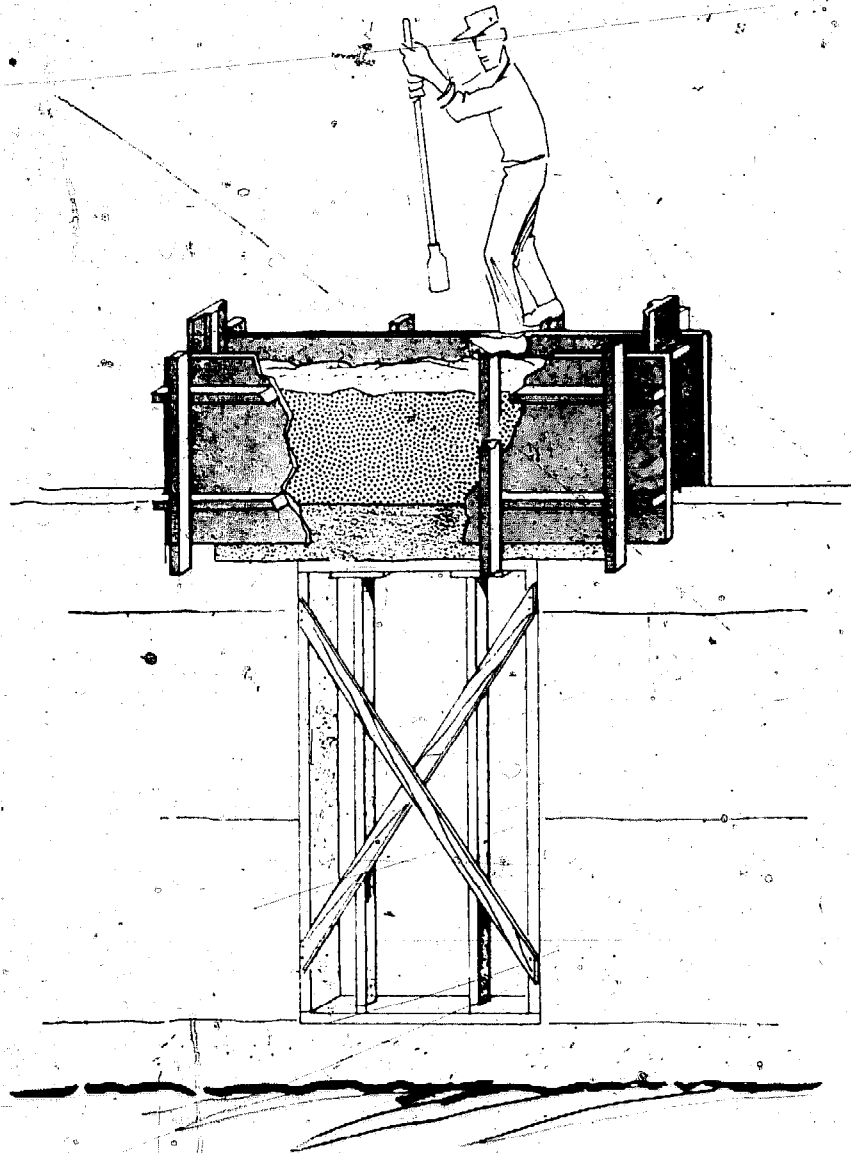

Figure 84.
*LINTELS AND TIE BEAMS*—Lintels and tie beams are constructed in the same way as for pressed blocks. There is one precaution to be noted, however. The pressures from ramming the earth on top of a lintel may be great enough to cause it to break or permanently sag. To keep this from happening, put sturdy braces beneath the lintel during ramming as shown in Figure 84, or design the building so that there is no earth wall over the door and window openings. This method is often preferred.